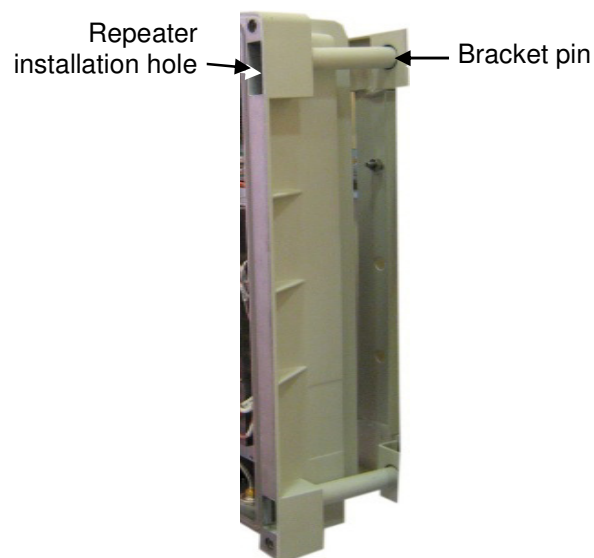

Figure 3-5.D-MBR 3007-3008-PS-NFPA Mounted on Support Bracket
2. Slide the brackets pins through the Repeater holes until the upper side is locked with the installation head nuts at the top of the bracket. See Figure 3-5.